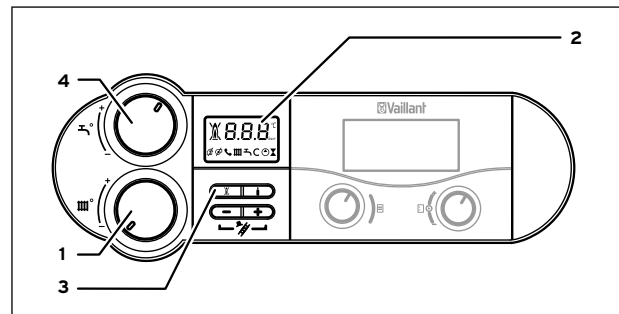

Fig. 5.4 Switching on the appliance
- The appliance operating status appears on the screen see Fig 5.4 (2).
- Is the control knob (1, fig 5.4) in the operating position?
If the burner fails to ignite after five attempts, the device does not start up and switches to "Fault". This is indicated by the fault code "F.28" or "F.29" in the display. The display also shows the flame symbol with a cross through it (2), see fig 5.4. Automatic ignition can only take place after you manually reset the fault.
- To reset the fault, press the reset button (3), see fig 5.4. and hold it down for one second.